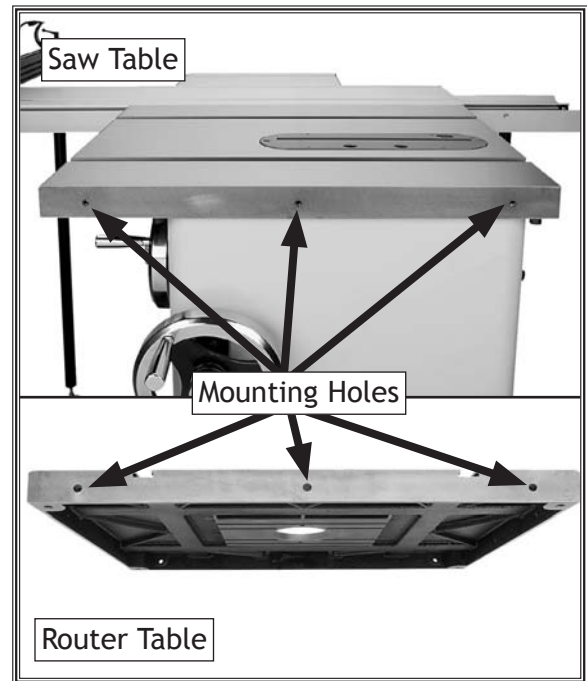

Figure 4. Mounting holes in saw and router tables.
- Mount the router table to the right side of the saw table or the existing right-hand wing. In these cases, you will probably need to drill and tap three M8-1.25 holes into the saw table or wing that match those in the router table (see Figure 4).